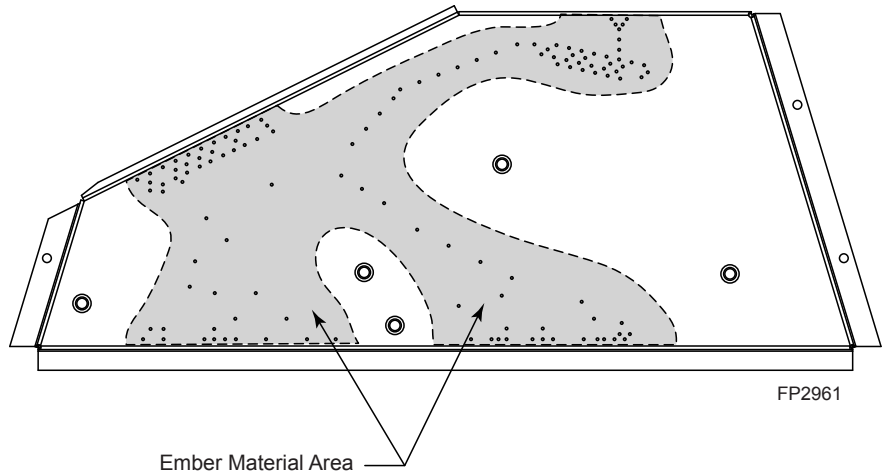

Figure 15 -
1. Break up rock wool (ember material) into small fluffy pieces. Place evenly as shown. Do not exceed 1" layer covering all round burner ports. Refer to Figures 15 and 16.